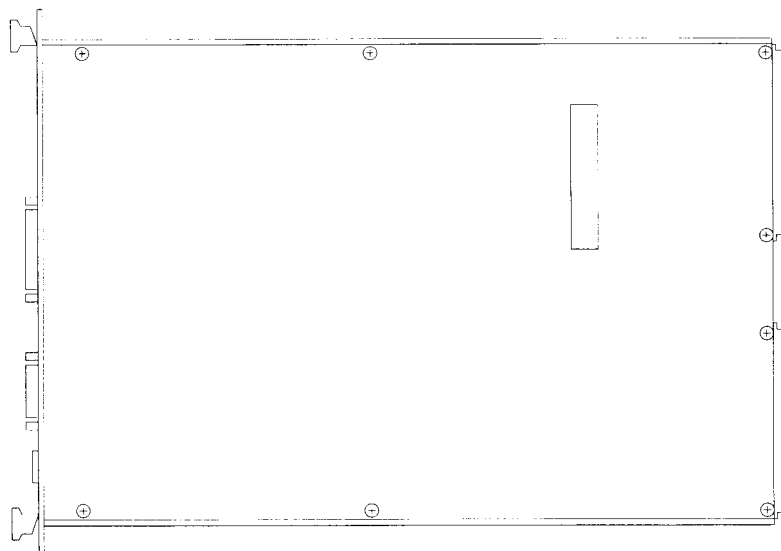

Figure 1: Remove module covers
1. Remove the sixteen screws securing the module covers. Refer to Figure 1.